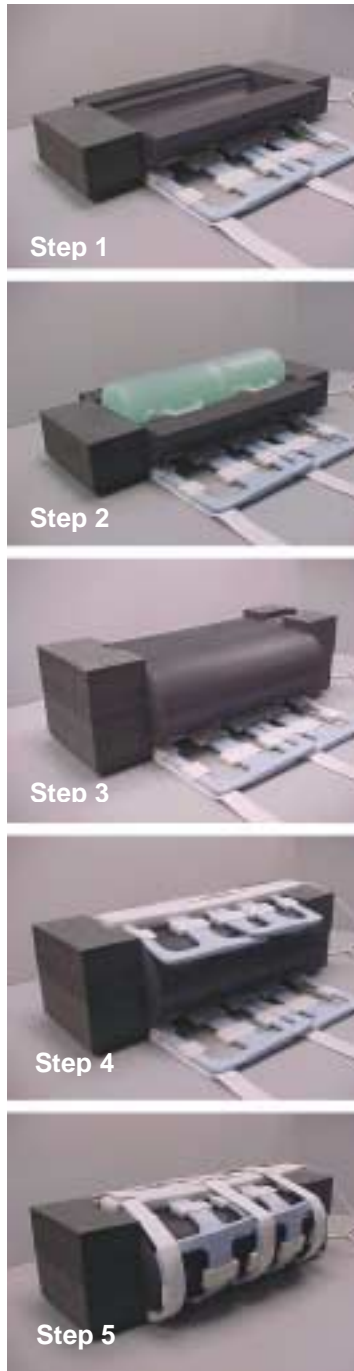

Figure 7: Assembling the phantom positioner set.
3. Assemble the phantom set as follows: (1) place the lower section of the phantom positioner on the posterior coil (see *Step 1 of Figure 7*); (2) place the phantom onto the lower section of the phantom positioner (see *Step 2 of Figure 7*); (3) place the upper section of the phantom positioner over the phantom (see *Step 3 of Figure 7*); (4) place the anterior coil over the phantom positioner set and fasten with Velcro straps as shown in *Steps 4 and 5 of Figure 7*. Be sure the anterior coil is aligned with the posterior coil.